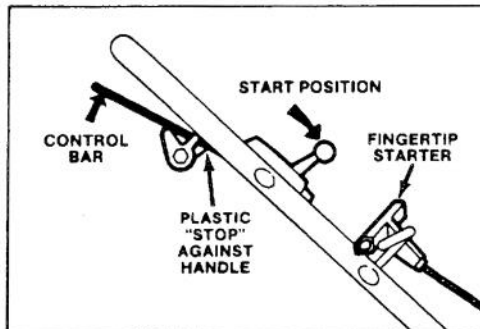
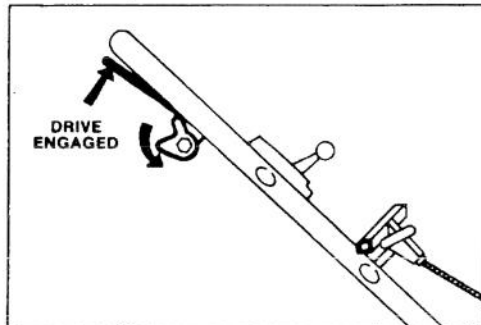

Figure 10
Figure 11
1. **CONTROLS** — Throttle, fingertip starter and control bar are on upper handle (Fig. 10).
2. **STARTING** (Fig. 10) — Push wire onto spark plug. Move throttle to FAST and squeeze control bar until "stop" on traction lockout cam contacts handle. Pull fingertip starter and regulate throttle as desired when engine starts. If engine does not start after 2 or 3 pulls, wait 10 seconds for carburetor prime well to refill with gasoline.
3. **SELF-PROPELLING** (Model 20675 only) (Fig. 11) — Push down on cam and squeeze control bar toward handle. Ground speed varies, depending on space between control bar and handle.
3. CHECK ADJUSTMENT — Lift control bar until "stop" on traction lockout cam contacts handle (Fig. 10). Mower should not creep forward or self-propel. Next, push down on cam and squeeze control bar against handle (Fig. 11). Mower should now self-propel.